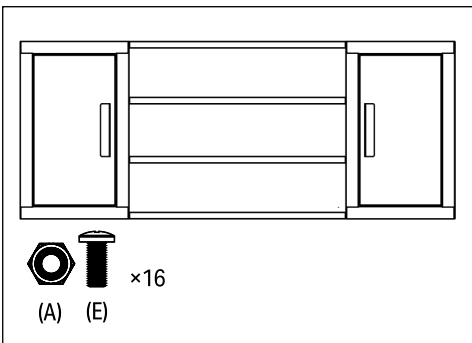

Fig. 9
2. Connect the 2 wall cabinets with the shelves (2) using 16 × M6 flat head bolts (A) and hex flange nuts (E) (Fig.9).